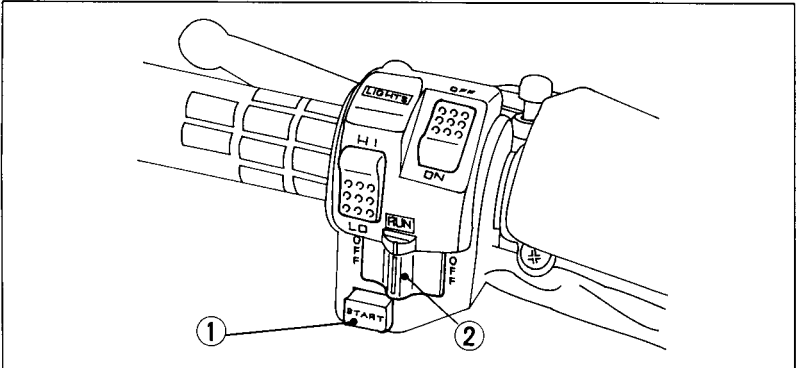

Fig. 2-7
The starter button (Fig. 2-7) is below the engine stop switch. To start the engine, press the starter button (1), with the transmission in neutral, the ignition switch ON and the engine stop switch (2) at RUN.